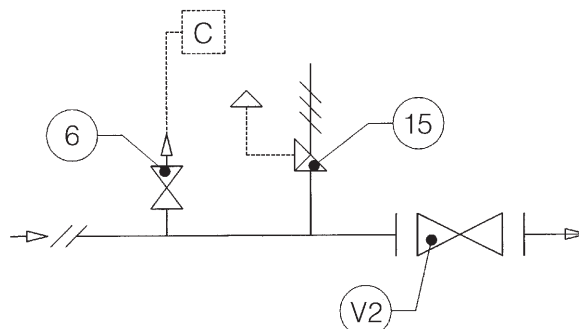

Fig. 6
3.1.1 DIRECT INSTALLATION IN THE LINE (FIG. 6)